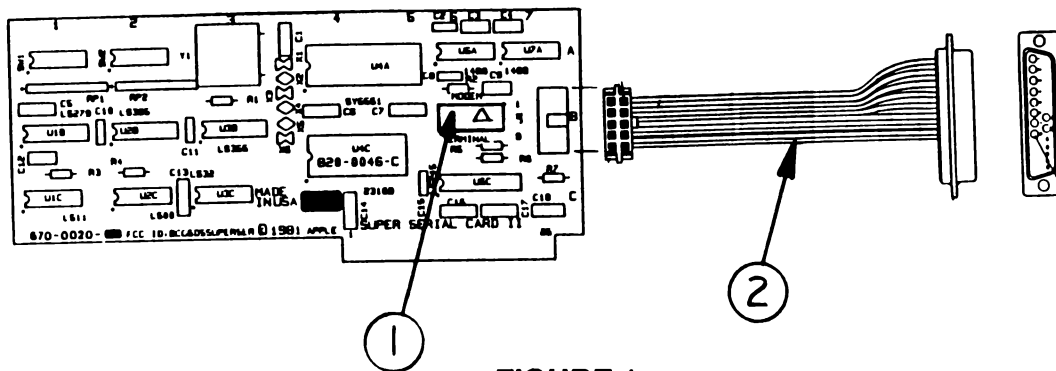

FIGURE 1
- IPL.3 Super Serial Card (Figure 1)
❑ SUPER SERIAL CARD (Figure 1)